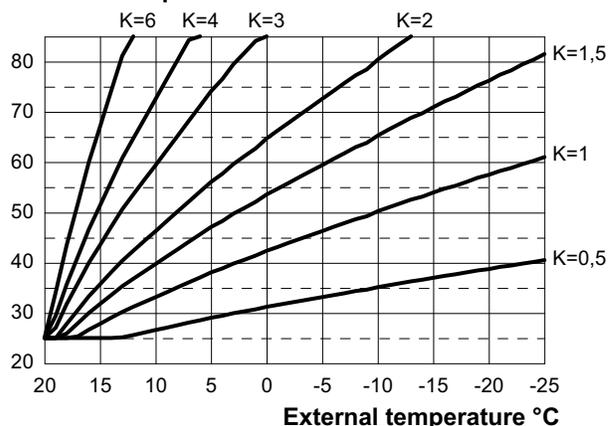

Fig. 7.16
If the boiler is **EQUIPPED** with the remote control (optional) refer to Fig. 7.16.
When installing the external probe it is necessary to set this parameter based on the efficiency of the heating plant in order to optimise the flow temperature (Fig. 7.16).
E.g. In order to have a flow temperature at the heating plant of 60°C with an external temperature of -5°C, set a K at 1.5 (sectioned line in Fig. 7.16).
- Using keys 17 or 18 it is possible to change the value of parameter 15 from a minimum of **01** to a maximum of **60** based on the selected bend of the K coefficient in Fig. 7.16 (the value read on the display corresponds to K coefficients decimal values). The writing **P15 - SEt** alternates on the display (Fig. 7.20).